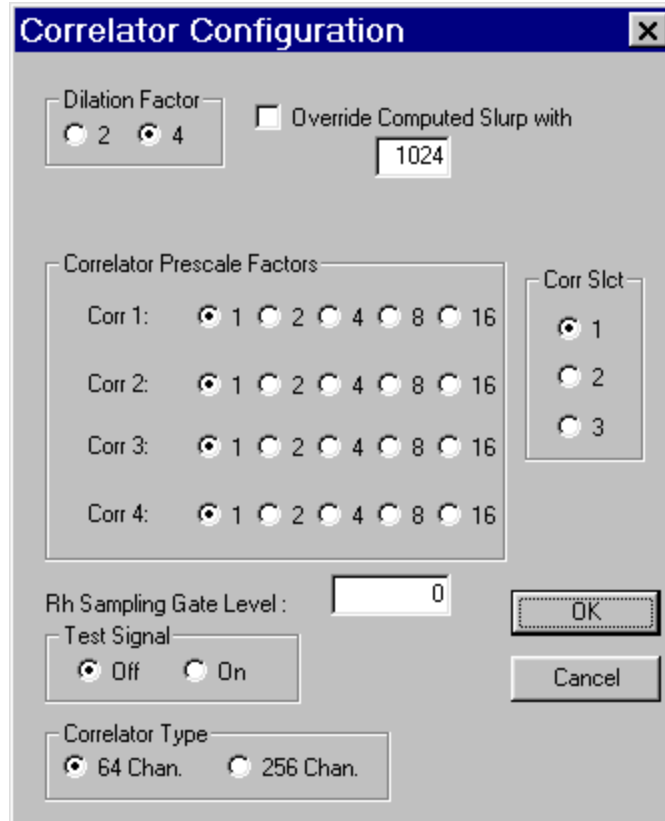

Figure 2-9: The Correlator Configuration Dialog Box
The *Correlator Configuration* dialog box (Figure 2-9) is used to describe a number of correlator settings.
- a) Ensure that the **Dilation Factor**, **Override Computed Slurp** and **Correlator Prescale Factors** are as shown in Figure 2-9.